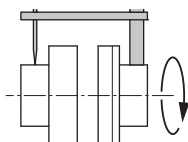

Fig. 10: Checking the radial alignment with a comparator
- Firmly clamp a dial gauge to one of the couplings or to the shaft (see fig. 10). The piston of the dial gauge must lie against the crown of the other half-coupling (see fig. 10).